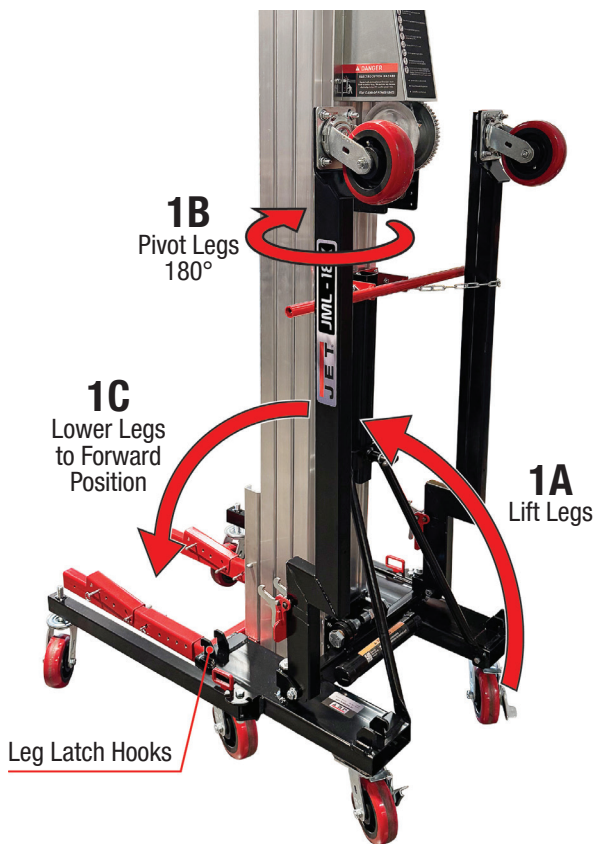

Figure 6-10: Positioning Legs to Forward Position
2. Carefully lift each leg (1A) and pivot each leg 180-degrees (1B). Then lower each leg to the forward position (1C). The leg tubing must be placed between the leg latch hooks (see Figure 6-10).